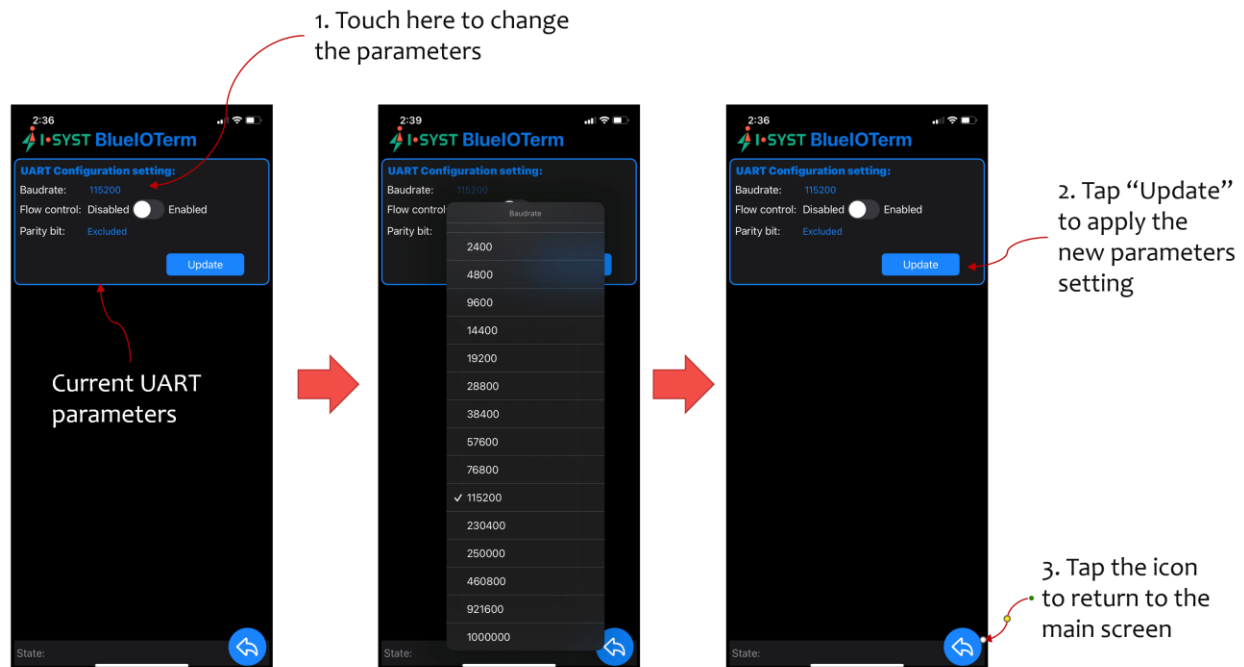

Fig. 11. Change UART parameters in BlueIOTerm.
- (vi) To change the UART parameters, tap "Setting" to go to the UART configuration setting menu. The UART parameters shown in the menu are the current settings (Fig. 11).